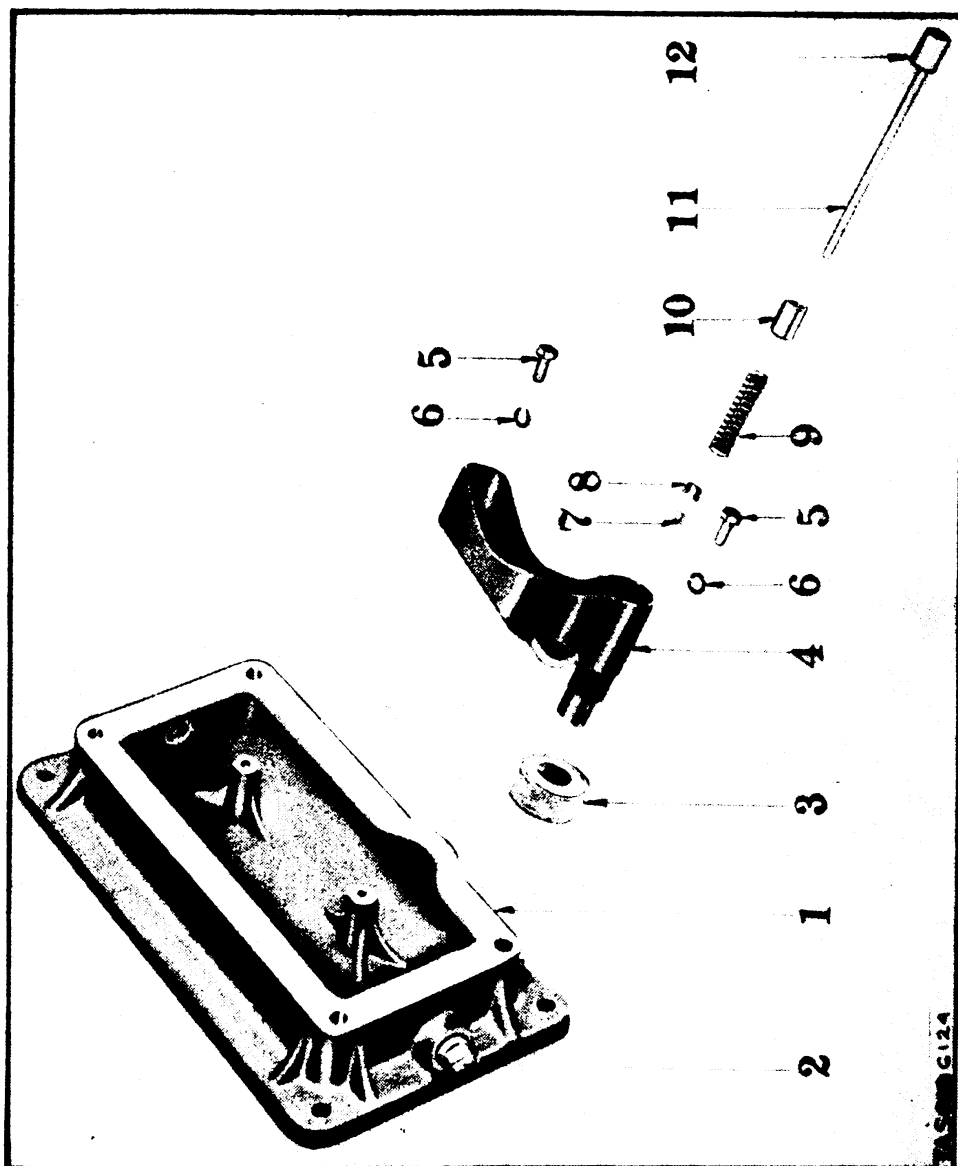

Fig. 124. Engine Base and Oil Pump.
j. Engine base and oil pump. (See figs. 124 and 125.)